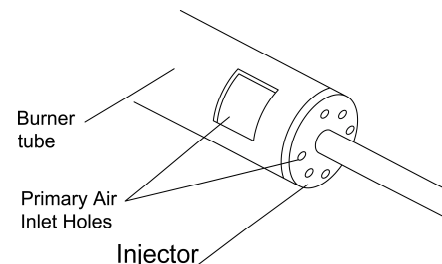

Figure 19 Inject or holder on outlet burner tube
2. Inspect burner, pilot and primary air inlet holes on injector holder for dust and dirt (see Figure 19).